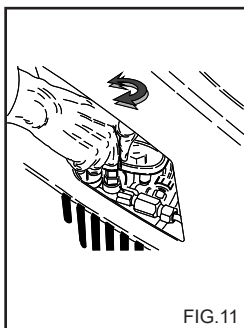

FIG.11
This chapter concerns only those models provided with the "pressure regulating" device. The pressure regulator, fig. 11, allows the operator to adjust the working pressure. When knob C is turned in an anti-clockwise direction (B) (minimum), the working pressure is reduced.